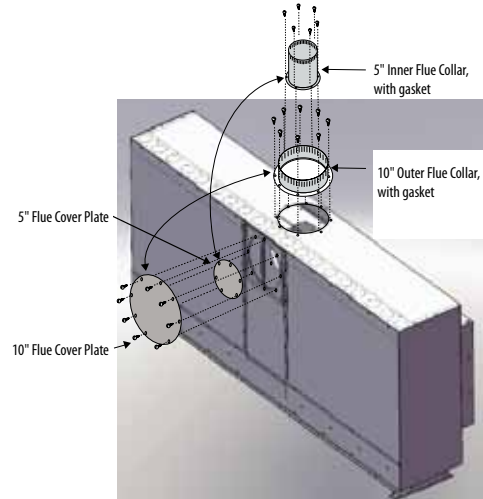

Figure 10. Flue Cap Installation, Top Vented Fireplace.
3. Now, remove the Top vent (5" inner and 10" outer) flue collars. Switch the collars and cover plates as shown in, Figure 10.